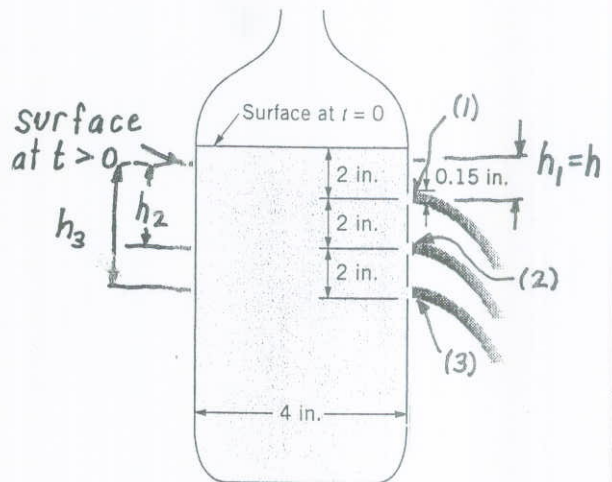

FIGURE P3.46
3.46 Pop (with the same properties as water) flows from a 4-in. diameter pop container that contains three holes as shown in Fig. P3.46 (see Video 3.9). The diameter of each fluid stream is 0.15 in., and the distance between holes is 2 in. If viscous effects are negligible and quasi-steady conditions are assumed, determine the time at which the pop stops draining from the top hole. Assume the pop surface is 2 in. above the top hole when  $t = 0$ . Compare your results with the time you measure from the video.